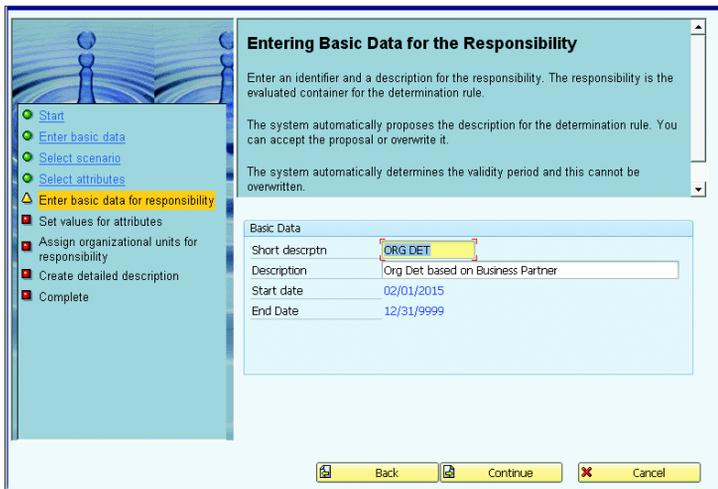

Figure 2.12 Organization Determination from Responsibility Category – Basic Data for Responsibility
5. Again, enter the basic data (see Figure 2.12). Click CONTINUE.